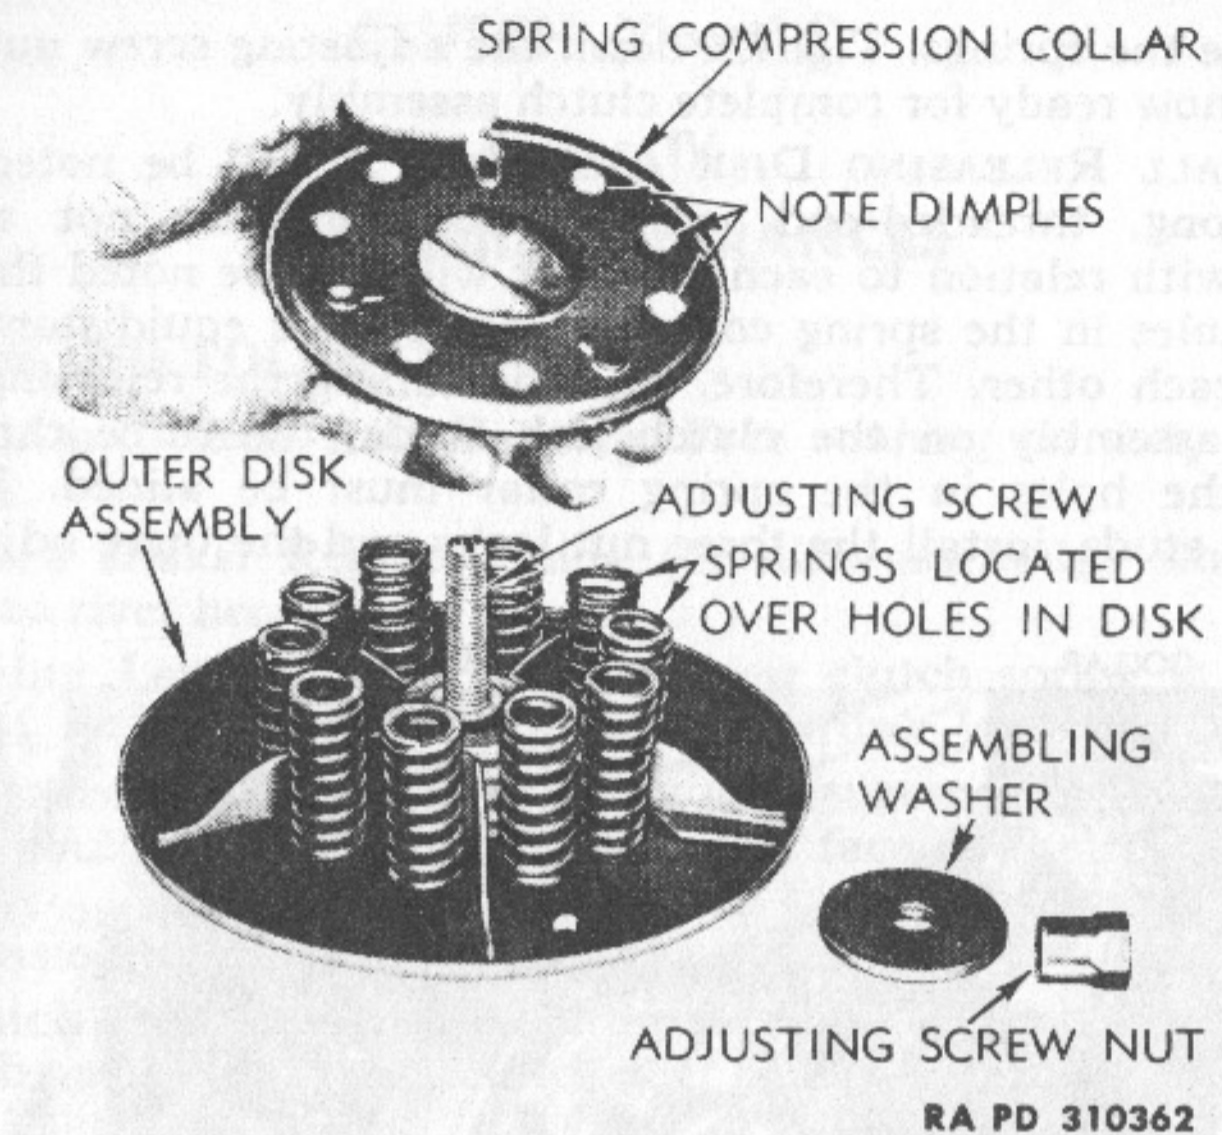

Figure 92—Springs Assembled on Releasing Disk
- (1) Lined disk fitted correctly on the hub studs.
- (2) Steel disk fitted to shell spline keys with side stamped "OUT" facing outward.
- (3) Lined disk fitted correctly on the hub studs.
- (4) Steel disk fitted to shell spline keys with antirattle device staggered in position from antirattle device on the first steel disk installed. Side stamped "OUT" facing outward.
- (5) Spring disk (lined on one side) is installed on the hub studs with the lined side inward, facing the steel disk.
f. **Assemble and Install Releasing Disk, Springs and Spring Collar** (figs. 92 and 93). Place the 10 springs upright on the releasing disk to centrally locate each of the 10 stud holes in the disk. Place the spring collar (flanged edge down) over ends of springs, locating